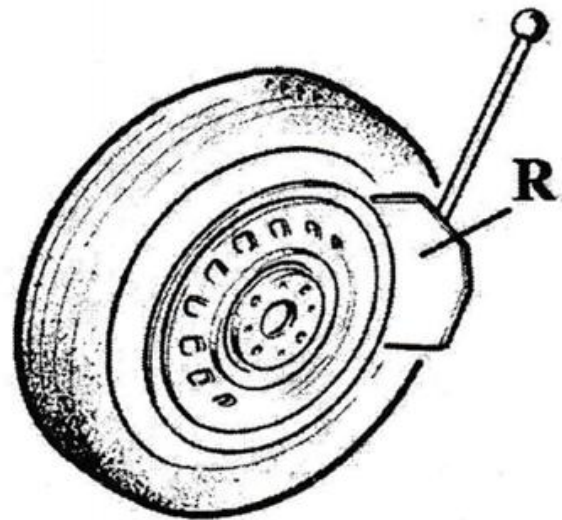

Figure 10
- ◇ As shown in Figure 10, make the pressing-tyre spade R close to the rim edge for about 2-3cm, (Note: the pressing-tyre spade is to be placed on the wheel rather than the rim).